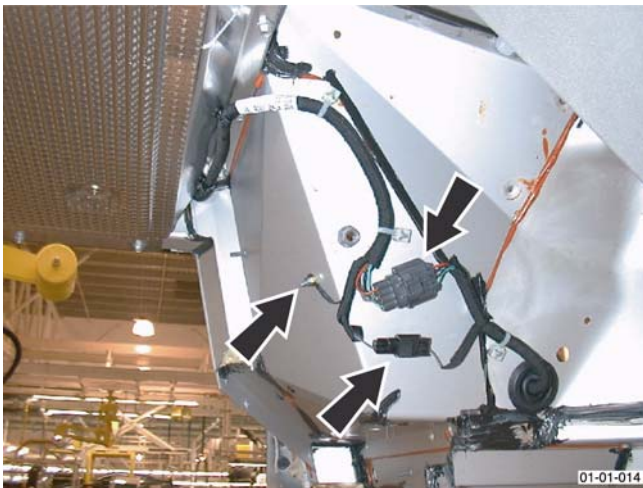

Figure 2
10. Remove the nut that attaches the earth strap for the fuel tank harness to the body and release the earth strap from the stud (Refer to Figure 2).